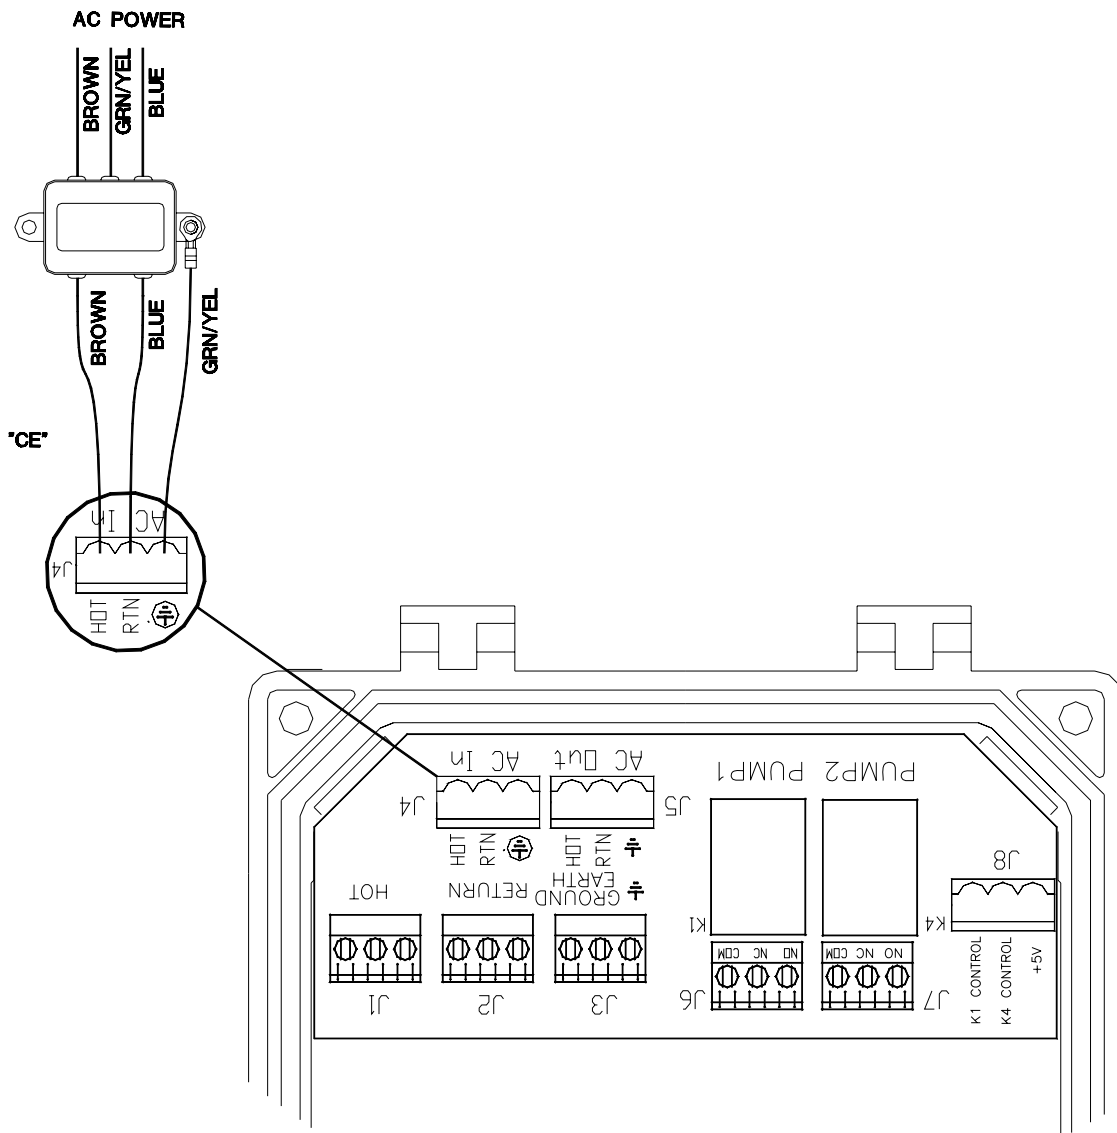

Figure 19 – Main Power Connections (CE) Approved
1. Connect the main power to the line filter using the wire nuts that were provided with your Digital Glycol Feeder as shown in *Figure 19, Main Power Connections (CE) Approved* below: